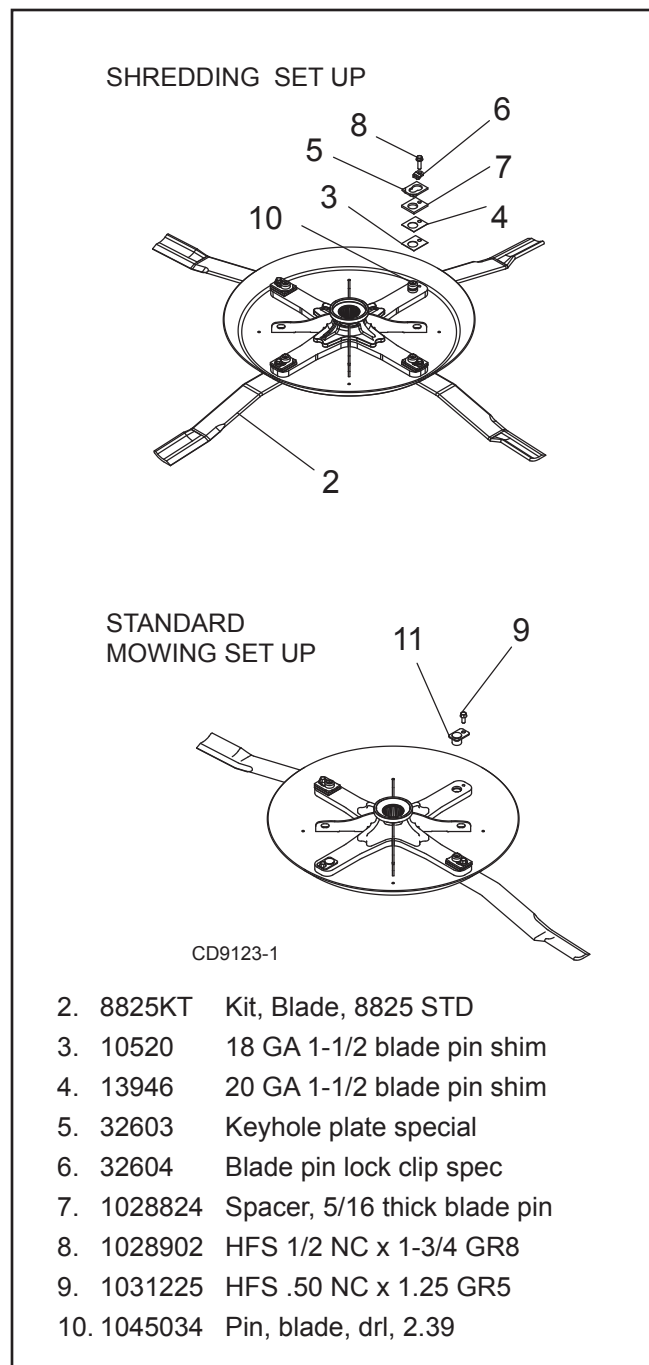

Figure 28. Shredding Kits
1. Install supplied shred kit blades as shown, using shims to obtain no more than .25" movement at blade tip. Stack shims as shown in Figure 28.